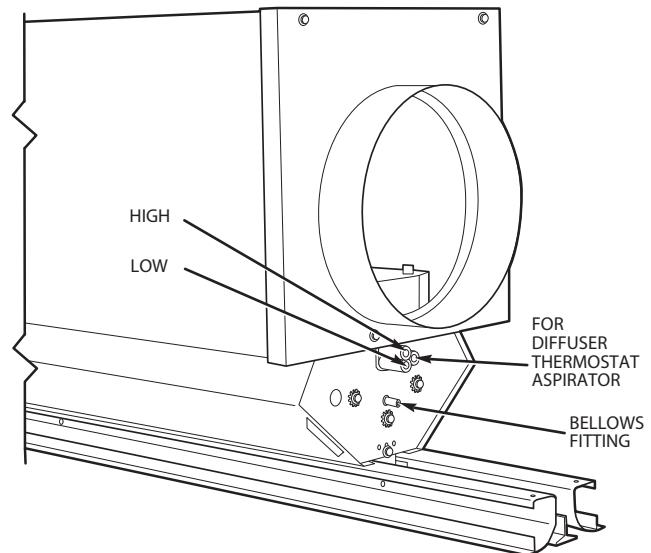

Fig. 30 — Typical 37HS Air Terminal Before Installation of Controls
2. Remove cap from bellows fitting (see Fig. 30) and install $1\frac{1}{16}$ -in. piece of $\frac{1}{4}$ -in. OD pneumatic tubing onto the bellows fitting (push on full length of fitting).
2. Remove cap from bellows fitting and install $1\frac{1}{16}$ -in. long piece of $\frac{1}{4}$ -in. OD pneumatic adaptor tubing onto the bellows fitting (push on full length of fitting). See Fig. 30.